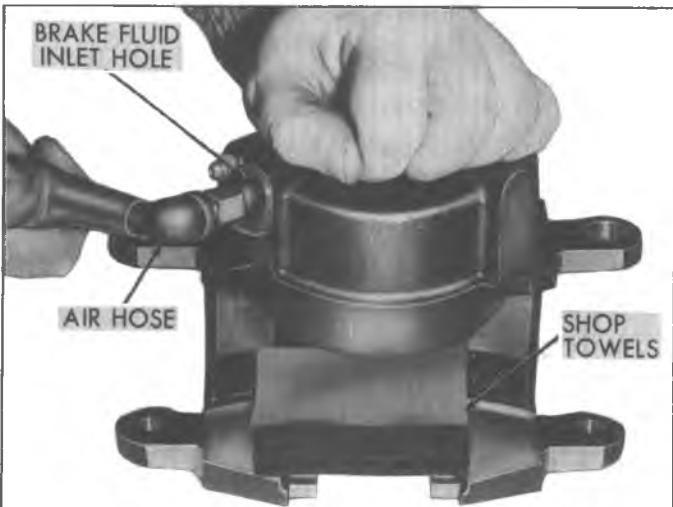

Fig. 60--Removing Piston From Caliper
3. Using clean shop towels, pad the interior of the caliper and remove the piston by directing compressed air into the caliper inlet hole (fig. 60).